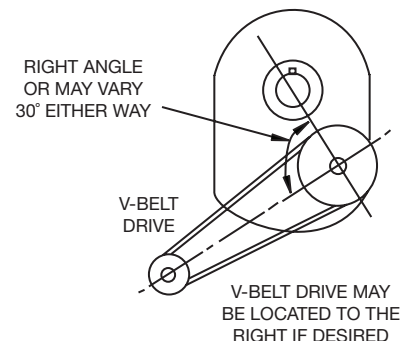

Figure 3 - Installation of Motor and V-Belt Drive
5. Install motor and V-belt drive so belt pull will approximately be at right angles to the center line between driven and input shaft. (See Fig. 3) This will permit tightening the V-belt drive with the torque arm.